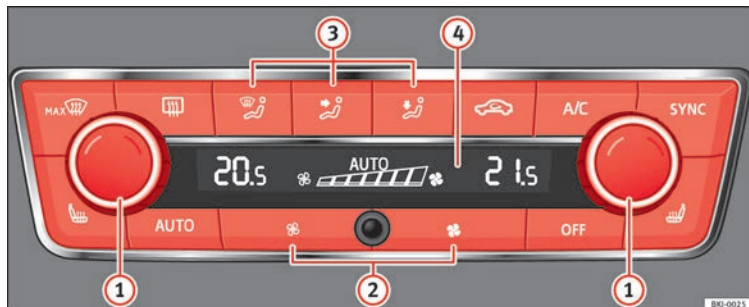

Fig. 147 Climatronic: controls.
- Set fan power to zero » Fig. 147 ② or press button **OFF**.
- Press the button **AUTO** » Fig. 147.
- When you switch on the ignition, control **1** **>>> Fig. 147** can be used to set the required interior temperature.
- Press the button **MAX**  **>>> Fig. 147.**